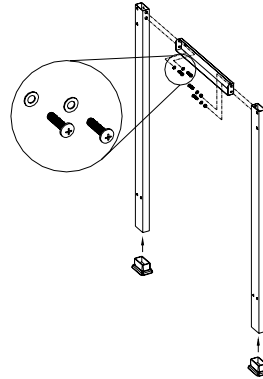

Figure 1
1. Assemble left back cart leg with side cart frame beam using (2) 1/4 x 1.38" Phillips head screws, (2) 1/4" lock washers. Repeat the same step to assemble left front cart leg with side cart frame beam using (2) 1/4 x 3/5" Phillips head screws and (2) 1/4" lock washers. Then attached the foot on the bottom of each leg. (Fig.1)